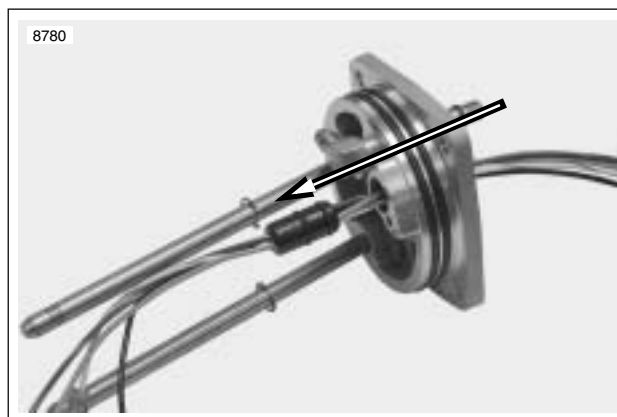

Figure 4-93. Wire Harness Removal Direction
9. See Figure 4-93. From outer side of fuel pump assembly, push wire harness through assembly.